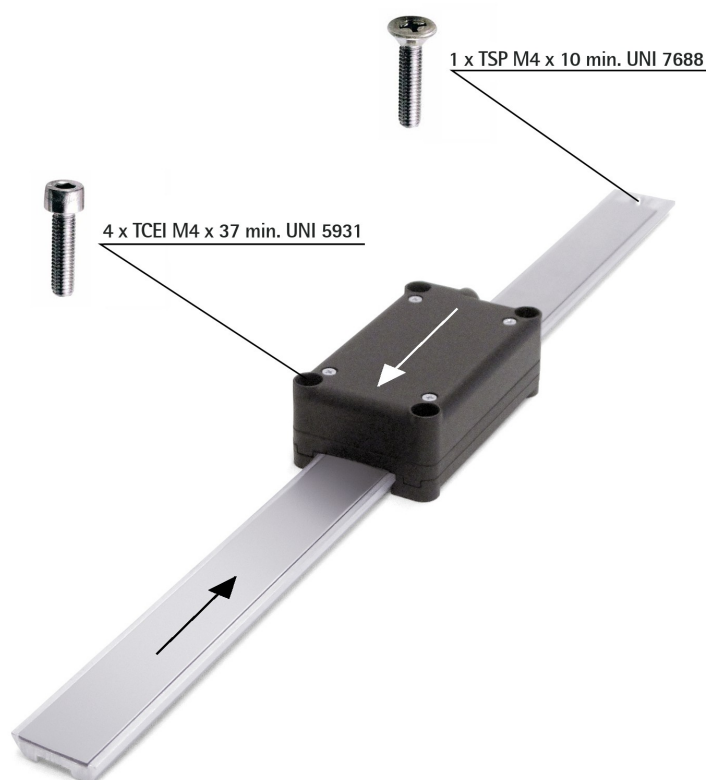

Figure 2
3.3 Sensor (Figure 2)
3.4 Profile of the magnetic tape (Figure 2)
3.6 Standard counting direction (Figure 2)
The positive counting direction (count up information) is achieved when the sensor moves on the tape according to the white arrow shown in Figure 2; or, on the contrary, when the tape moves according to the black arrow shown in Figure 2. For further information, see the bit 3 **Code sequence** in the **6000-00 Operating parameters** object, see on page 48).